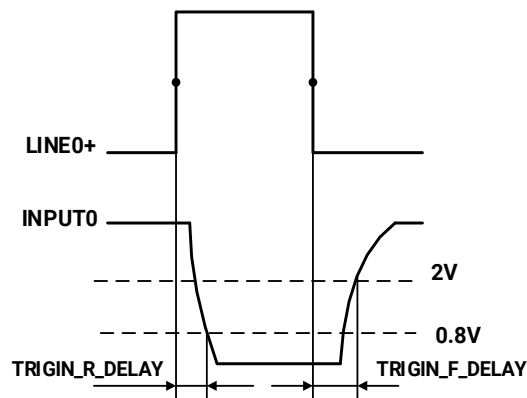

Figure 7-10 Parameter of opto-isolated input circuit
- Rising edge delay: $<50\mu\text{s}$ ($0^{\circ}\text{C}\sim 45^{\circ}\text{C}$), parameter description as shown in Figure 7-10
- Falling edge delay: $<50\mu\text{s}$ ($0^{\circ}\text{C}\sim 45^{\circ}\text{C}$), parameter description as shown in Figure 7-10